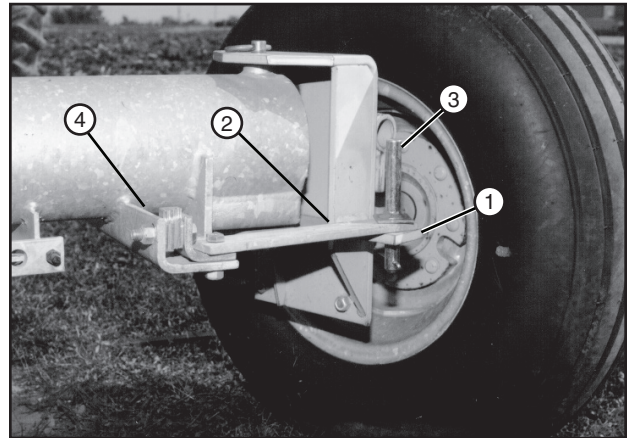

Figure 61-2 1. Steering Arm
13. Secure wheel in the swivel position with original hardware. See figure 61-2.